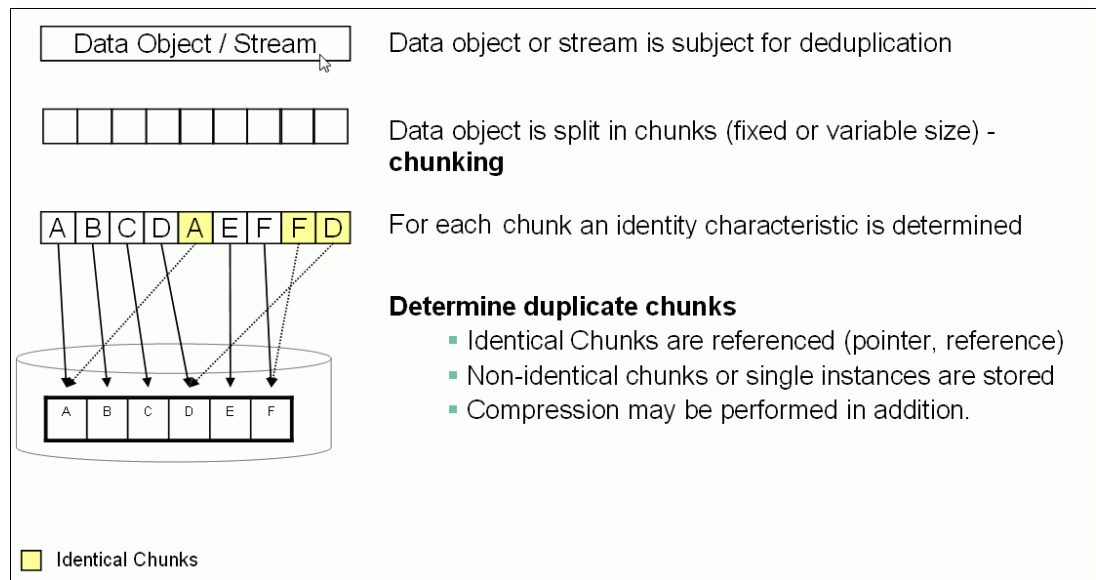

Figure 2-1 Simplified data deduplication process
With deduplication, repeated instances of identical data are identified and stored in a single instance, as shown in Figure 2-1. This process saves storage capacity and bandwidth. Data deduplication can provide greater data reduction than previous technologies, such as Lempel-Ziv (LZ) compression and differencing, which is used for differential backups. It does not always make sense to use data deduplication because not all types of data can be deduplicated with identical efficiency. Data deduplication might interfere with other technologies, such as compression, encryption, or data security requirements. Data deduplication is not apparent to users and to applications.